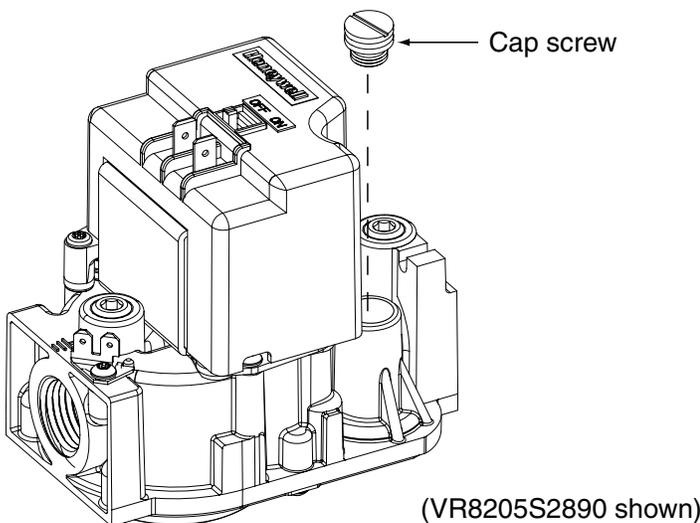
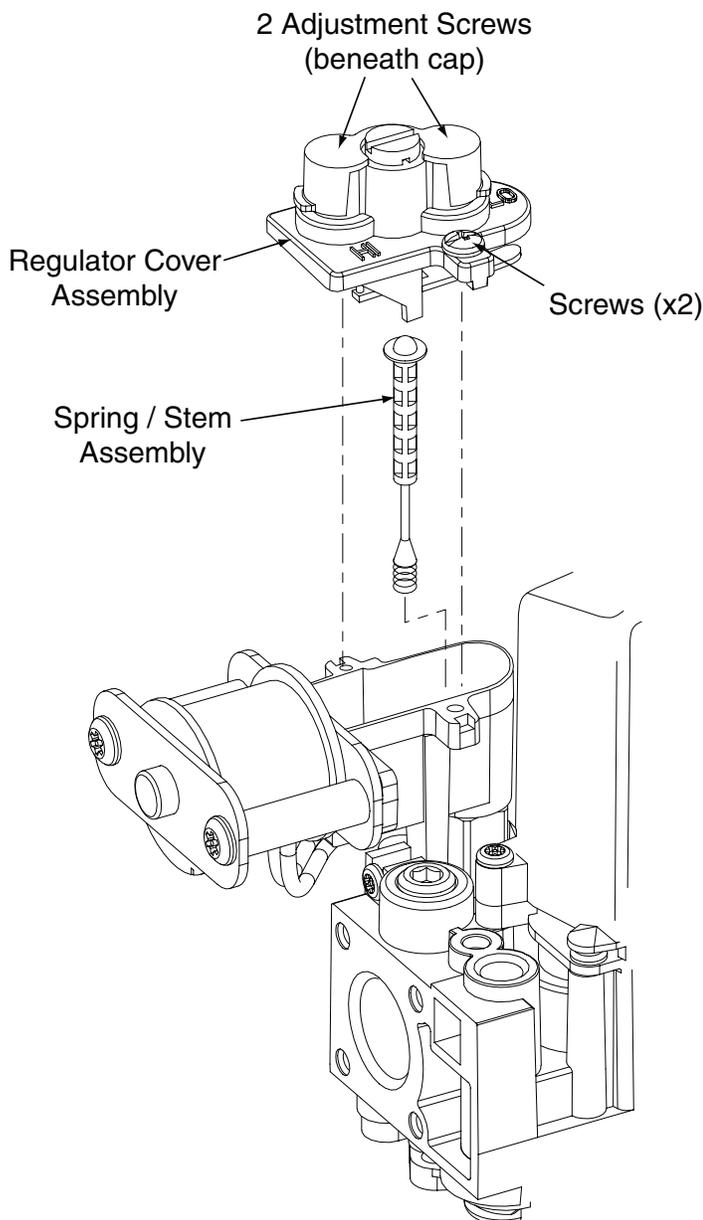
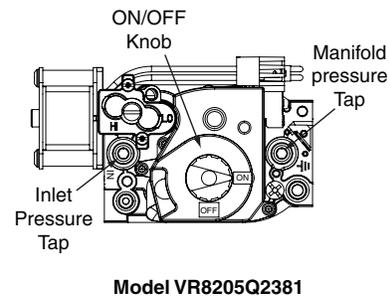

Figure 2. Cap Screw Removal
Figure 4. Spring / Stem Assembly Removal
Fig. 9. Inlet & Manifold Pressure Tap Locations
1. Remove the cap screw from the gas valve as shown in Figure 2.
1. Remove two screws securing the pressure regulator cover assembly to the gas valve. Do not discard the screws. See Figure 4.
4. Place the gas valve ON/OFF switch/knob to the ON position. See Figure 9.
3. Using a 3/16" Allen wrench, remove the manifold pressure tap plug located on the outlet side of the gas valve. See Figure 9.
1. **Single stage gas valve:** Remove the cap screw from the top of the gas valve regulator. See Figure 2 (page 4) for VR8205S2890 or VR8215S1289 models.
2-stage gas valve: For VR8205Q2381 models, remove the plastic cap covering the adjustment screws (Figure 4 page 4).
2. Using a screwdriver or Allen wrench (where appropriate), slowly turn the adjustment screw till the appropriate manifold pressure listed in Table 2 is achieved. See Figure 2 for VR8205S2890 or VR8215S1289 models. See Figure 4 for VR8205Q2381 models or Figure 9 for VR9205Q1127 models.